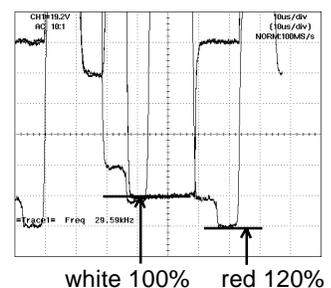

Fig. 2-2
8. Press the VOL. UP/DOWN button on the remote control until the red color level is adjusted to $120 \pm 10\%$ of the white level. (**Refer to Fig. 2-2**)